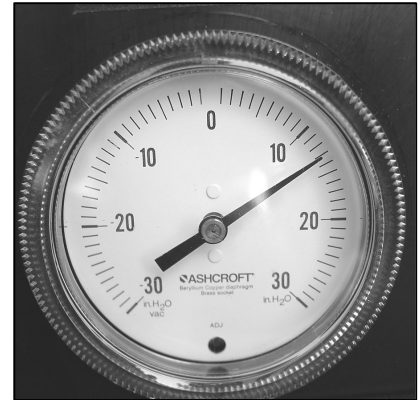

Figure 4
6. The Tester's pressure gauge should read between 13" and 14" of water column (w.c.). (Figure 4)
7. Be sure the Tester's System Pressure Gauge is indicating system pressure after having performed steps 1-6 above. (Figure 4)